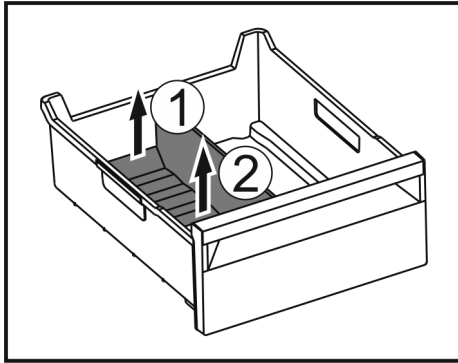

Fig. 213
- Lift the rear part of the ice compartment divider. Fig. 213 (1)
- Remove the ice compartment divider upwards. Fig. 213 (2)